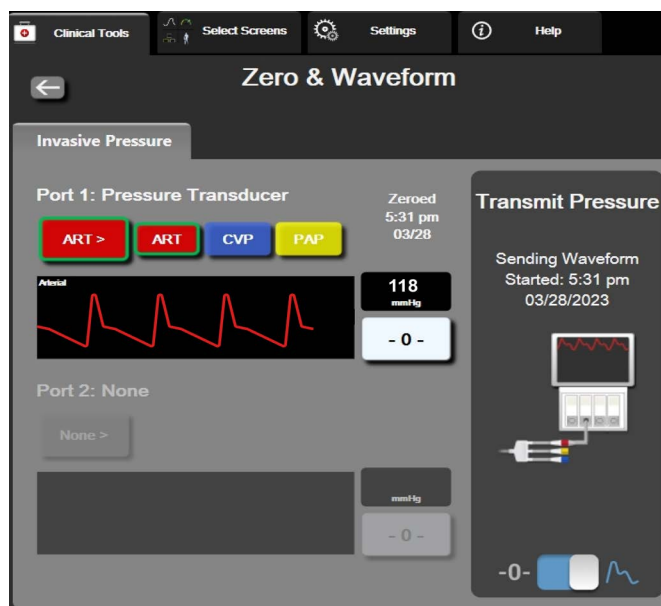

Figure 10-2 Zero & Waveform screen – Zero sensor and Pressure-Out
- 6 Toggle to the **Transmit Waveform** icon  to begin pressure signal output to the patient monitor. A **“Sending Waveform Started:”** message with the timestamp is displayed when the live waveform is being transmitted to the connected patient monitor. See figure 10-2 on page 191.